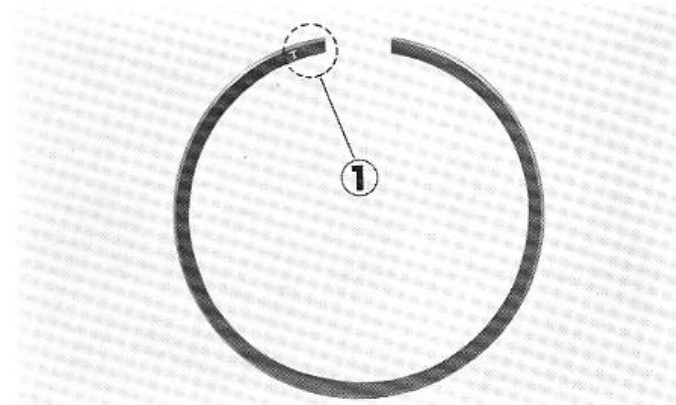

Fig. 2-32 ① Manufacturers mark
- b. The ring must have the maker's mark on the ring toward the top. (Fig. 2-32)